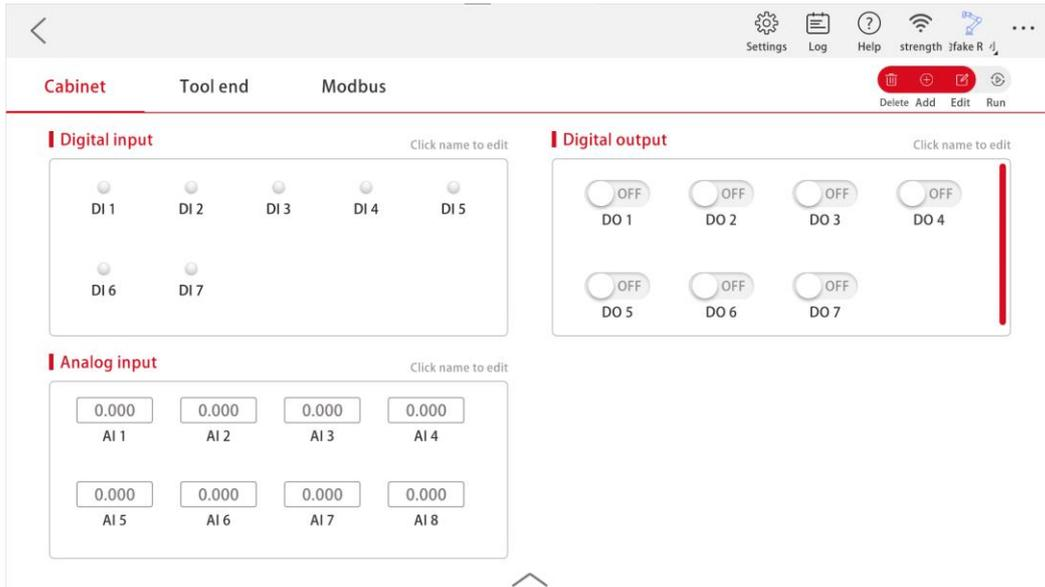

Figure 3-18 Schematic Diagram of Extended I/O Addition
- ① Extended I/O setting on App (as shown in Figure 3-18 to 3-21)